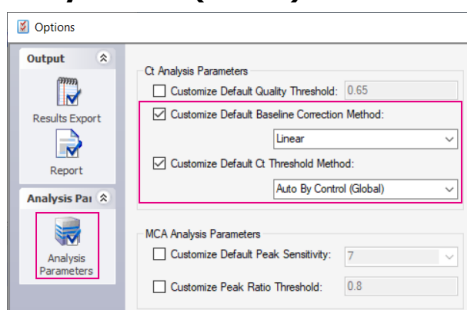

Figure 16. Analysis Parameters options
- 5 (Optional) Click **Analysis Parameters** and change the default settings (Figure 16):